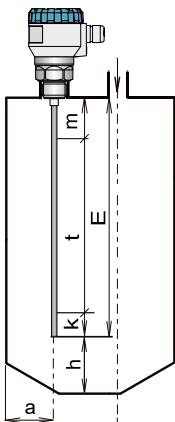

Fig. 1: Level meter installation with the rod electrode
- Otherwise, the level meter install as far as possible from the walls, to the middle between the wall and the vertical inlet, see Fig. 1., 2, 3, 4 and 5.
- It is an area in which continuous level measurement takes place. The maximum measuring range is determined by the length of the measuring electrode with the subtraction of dead zones at the beginning and at the end of the electrode, see Figs. 1, 2, 3, 4 and 5. This range is also the default setting of the level meter. The maximum measuring range can be reduced by the user by changing the minimum and maximum levels in case of obstacles near the end or in particular at the beginning of the measuring electrode.
- In connection with the measurement principle, electromagnetic waves reflected in the area immediately below the level meter and also at the end of the electrode cannot be evaluated (see Figs. 1, 2, 3, 4 and 5). These zones determine either the minimum possible distance between the level meter and the highest level (“m” parameter) or the minimum distance at the end of the electrode (“k” parameter). **The level meter must be installed in such a way that the level does not interfere with the dead zones at the maximum and minimum possible filling of the storage tank.**